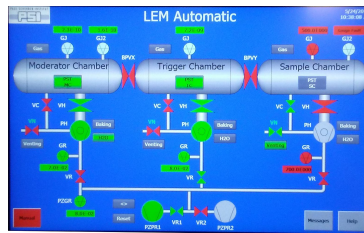

Figure 4.1: Main screen of the vacuum control touch screen.
2. Close the vacuum valve BPVX separating MC and TC using the vacuum control touch screen near the moderator cryostat (Fig. 4.1). You should hear a hissing sound when the valve is closed and its color on the touch screen will change from green to red.